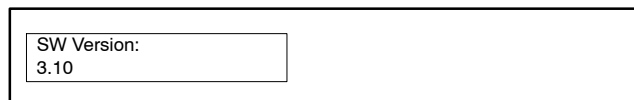

Figure 2-9 SW Version Submenu
6. Rotate the selector dial clockwise to navigate to the (firmware) SW Version submenu as shown in Figure 2-9.